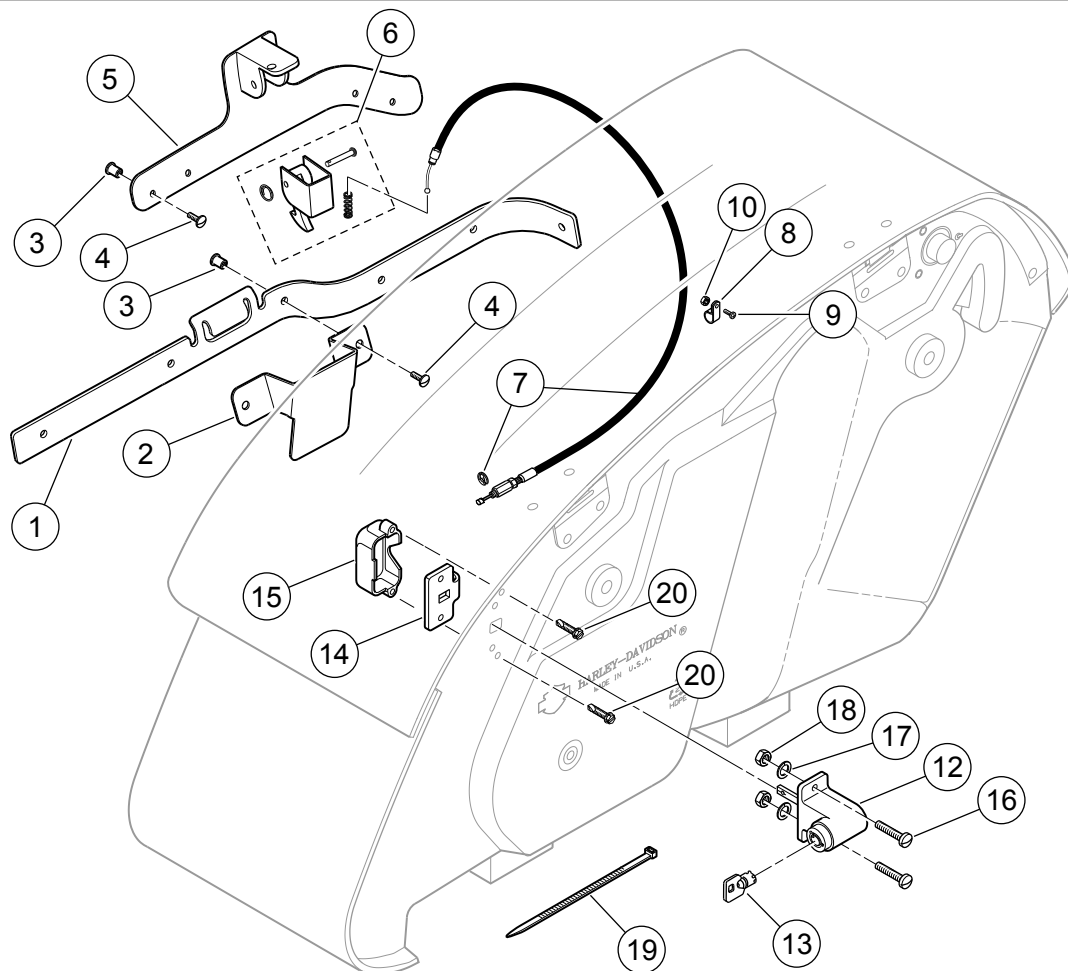

Figure 2. Service Parts: FLHRC Saddlebag Lock Set Kit
See Figure 2 and Table 1.
1. See Figure 2. Obtain FLHRS Saddlebag Lock Set Kit (11) components from this kit.
2. See Figure 2. Insert rivets (3) into holes in saddlebag lid from outside.
4. Install roof bracket (5) from kit onto rivets, over buckle straps, and thread screws (4) into rivets. Tighten securely.
1. See Figure 2. Position inner plate (1) from kit on inside of saddlebag base, curved end tight against front of saddlebag, lining up top of inner plate with top outboard edge of saddlebag.
5. See Figure 2. From the outside, insert rivets (3) into second and third holes from rear in saddlebag base.
6. Position inner plate (1) onto two rivets.
7. Obtain inner plate guard (2) from kit and place it onto the rivets. Thread two screws (4) into rivets, but do not fully tighten.
1. See Figure 2. Obtain the actuator cable assembly (7) from kit.
1. See Figure 2. Obtain latch and spring kit (6).
3. Position latch actuator inside tabs of roof bracket (5), and latch shroud outside tabs, lining up the holes.